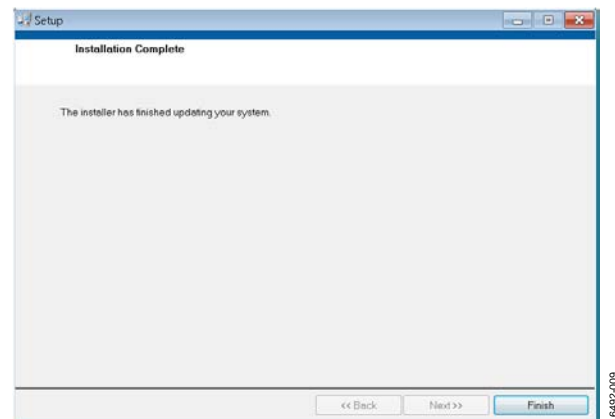

Figure 9. **ADXL372 Evaluation Board GUI Installation Complete**
4. Click **Next** to start the installation. The installer completes installation of the software evaluation GUI and all required National Instruments drivers and run-time engines. After the installation is complete, the dialog box (see Figure 9) is displayed.